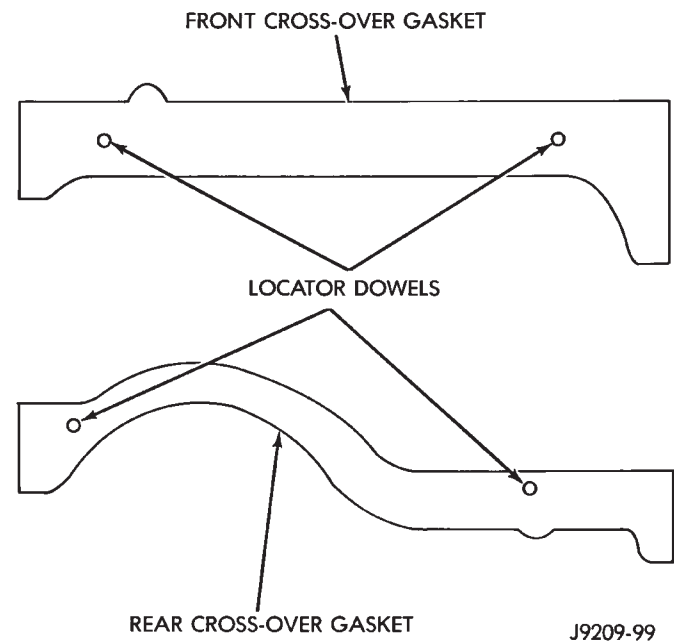

Fig. 9 Cross-Over Gaskets and Locator Dowels
(2) Using a new gasket, install the throttle body onto the intake manifold. Tighten the bolts to 23 N•m (200 in. lbs.) torque.
(3) Place the 4 plastic locator dowels into the holes in the block Fig. 9).
(4) Apply Mopar Silicone Rubber Adhesive Sealant, or equivalent, to the four corner joints. An excessive amount of sealant is not required to ensure a leak proof seal. However, an excessive amount of sealant may reduce the effectiveness of the flange gasket. The sealant should be slightly higher than the cross-over gaskets, approx. 5 mm (0.2 in).
(5) Install the front and rear cross-over gaskets onto the dowels (Fig. 9).